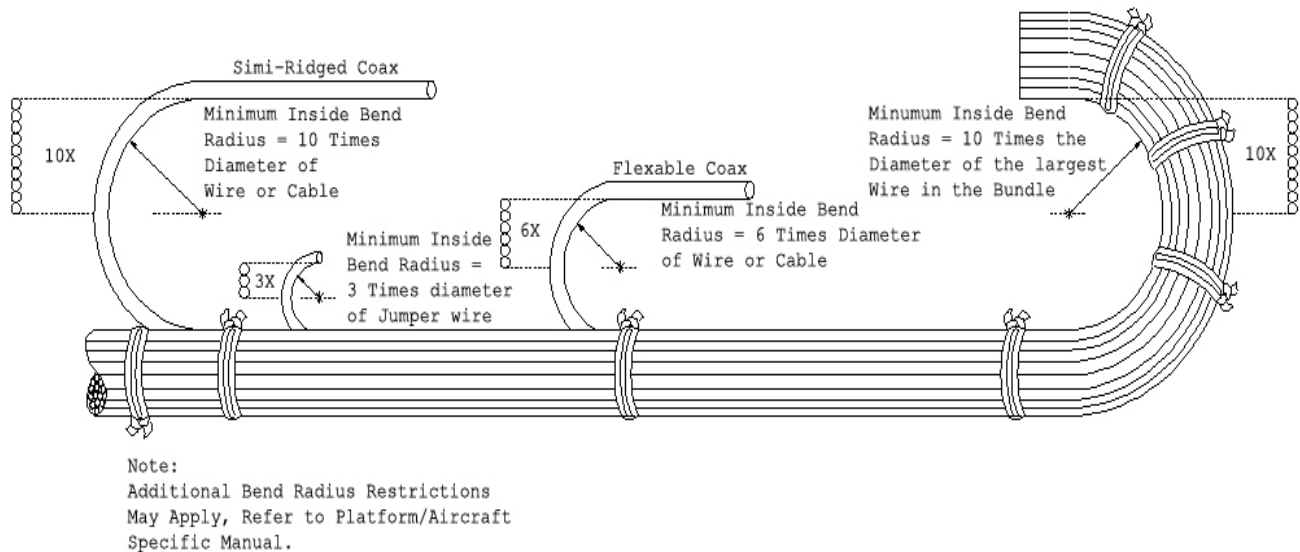

Figure 1. Bend Radius
24. **BEND RADIUS.** The maximum amount a wire can be bent without causing damage to the conductor or insulation is referred to as minimum bend radius (Figure 1). Bending the wire in excess of the allowable amount (minimum bend radius) will result in the outer insulation to stretch or break, and the inner insulation to compress and wrinkle. Proper routing and installation is pivotal to wiring system integrity and operation. Refer to WP 010 00, 005 00 and 006 00 for additional information.